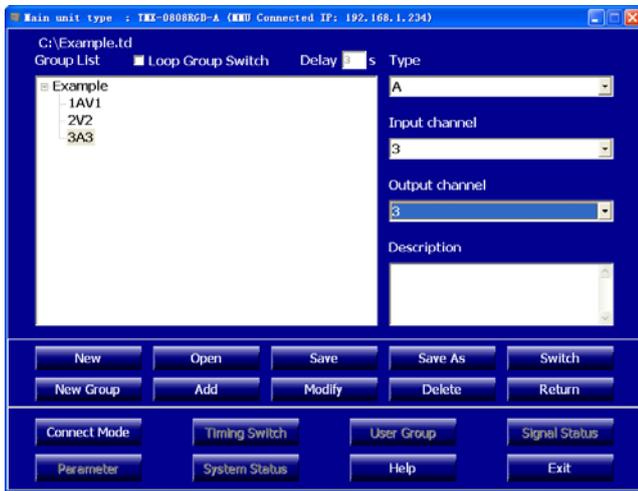

Figure 3.11 User group
User group module is designed for users to switch one or more input channels to one or more output channels in different modes. As figure 3.11:
- **Save:** Save user group code to a file. As shown in figure 3.11, the file is saved as “C:\Example.td”.